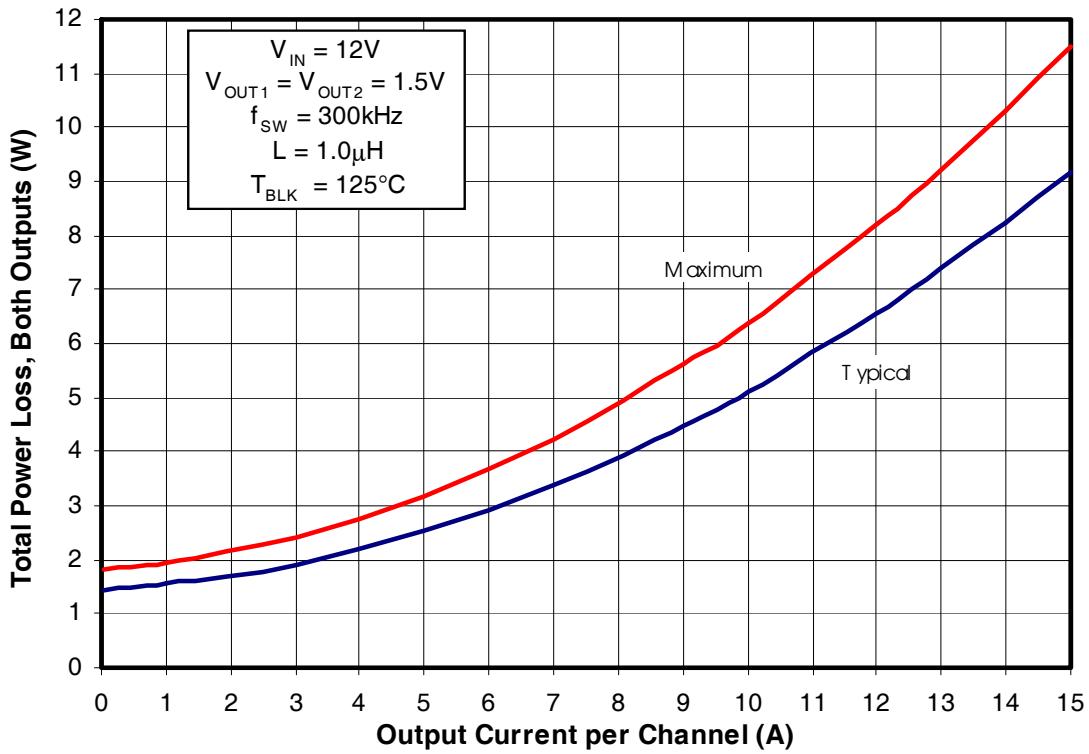
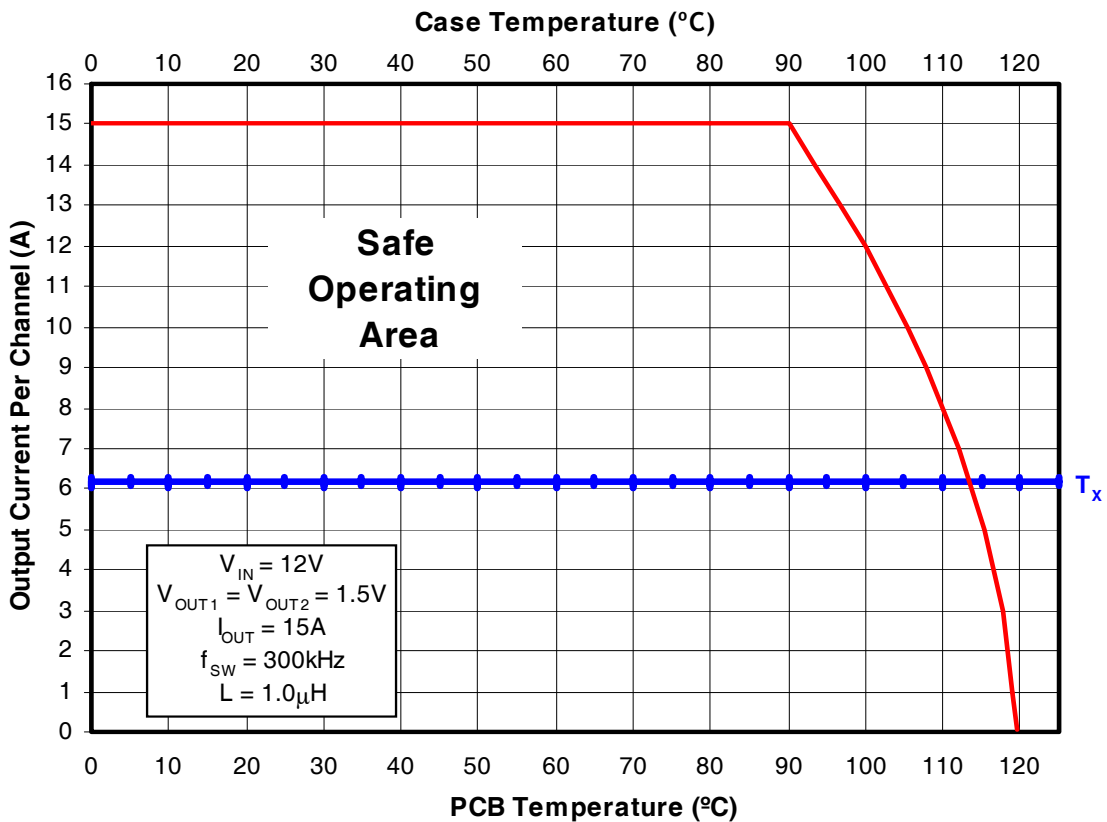
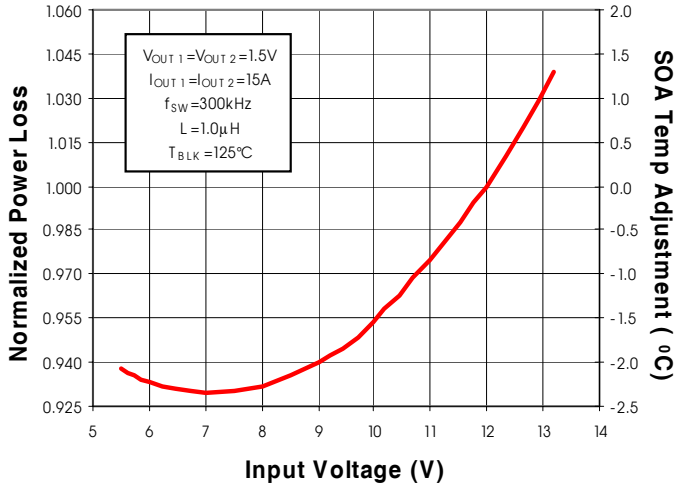

Fig. 2: Power Loss vs. Current
Fig. 3: Safe Operating Area (SOA) vs. T_{PCB} & T_{CASE}
Fig. 4: Normalized Power Loss vs. V_{IN}
To make adjustments to the power loss curves in Fig. 2, multiply the normalized value obtained from the curves in Figs. 4, 5, 6 or 7 by the value indicated on the power loss curve in Fig. 2. Remember that the power loss in Fig. 2. is the power loss for 2 outputs operating with the same output voltage. If differing output voltages are used the initial power loss for each channel needs to be divided by 2. Then if multiple adjustments are required, multiply all of the normalized values together, then multiply that product by the value indicated on the power loss curve in Fig. 2. The resulting product is the final power loss based on all factors. See example no. 1.
To make adjustments to the SOA curve in Fig. 3, determine your maximum PCB Temp & Case Temp at the maximum operating current of each iP1202PbF. Then, add the correction temperature from the normalized curves in Figs. 4, 5, 6 or 7 to the T_x axis intercept (see procedure no. 2 above) in Fig. 3. When multiple adjustments are required, add all of the temperatures together, then add the sum to the T_x axis intercept in Fig. 3. See example no. 2.
- Output1 (Fig. 2) Maximum power loss = W 8.25/2 = 4.125W
(Fig. 4) Normalized power loss for input voltage \approx 0.93
- Output2 (Fig. 2) Maximum power loss = $6.4W / 2 = 3.2W$
- (Fig. 4) Normalized power loss for input voltage ≈ 0.93
- Output1 (Fig. 4) Normalized SOA Temperature for input voltage $\approx -2.3^{\circ}C$
- Output2 (Fig. 4) Normalized SOA Temperature for input voltage $\approx -2.3^{\circ}C$